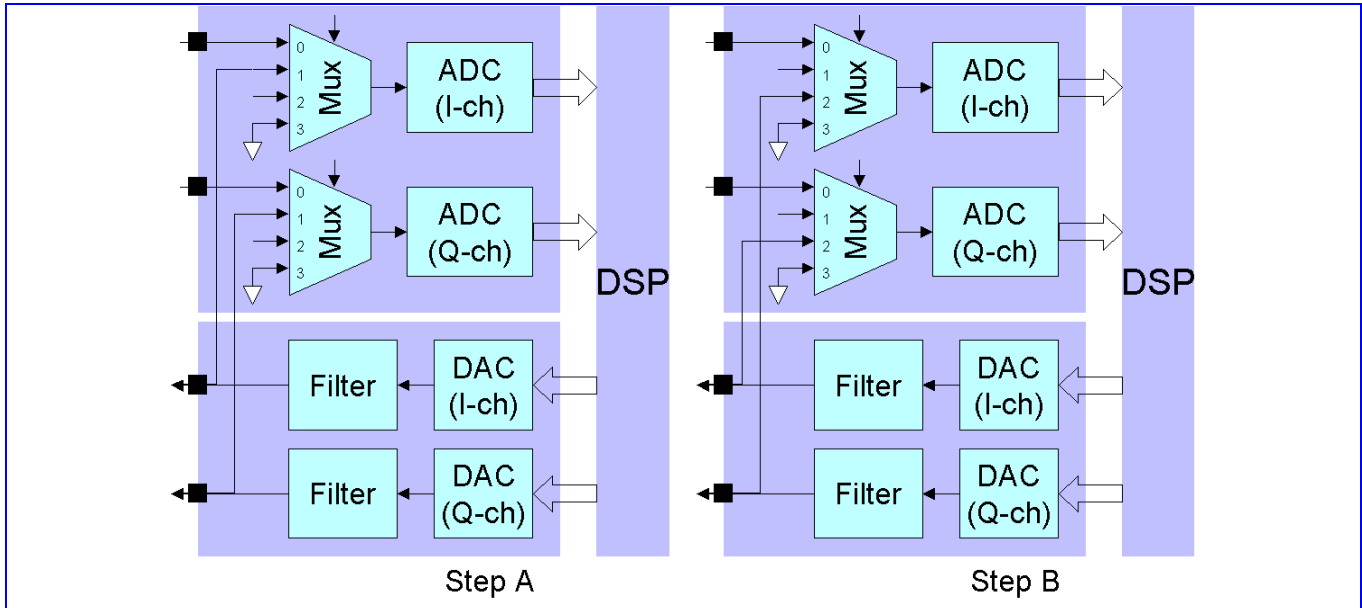

Figure 108 Downlink RX and Up-link TX Gain Mismatch Measurement (A) I/Q TX connect to I/Q RX (B) I/Q TX connect to Q/I RX
- A. The uplink I-channel output are connected to the downlink I-channel input, and the uplink Q-channel output are connected to the downlink Q-channel input. This can be achieved by setting **ISEL [1:0] = '01'** and **QSEL [1:0] = '01'** (shown in **Figure 108 (A)**).
- B. The uplink I-channel output are then connected to the downlink Q-channel input, and the uplink Q-channel output are connected to the downlink I-channel input. This can be achieved by setting **ISEL [1:0] = '10'** and **QSEL [1:0] = '10'** (shown in **Figure 108 (B)**).